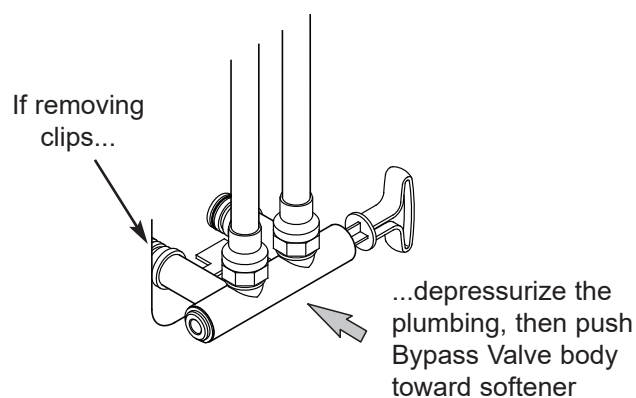

FIG. 14
7. Check for leaks around clips at softener’s inlet and outlet. If a leak occurs at a clip, depressurize the plumbing (turn off the water supply and open faucets) before removing clip. When removing clips at the softener’s inlet or outlet, push the single bypass valve body toward the softener (See Figure 14). Improper removal may damage clips. Do not reinstall damaged clips.